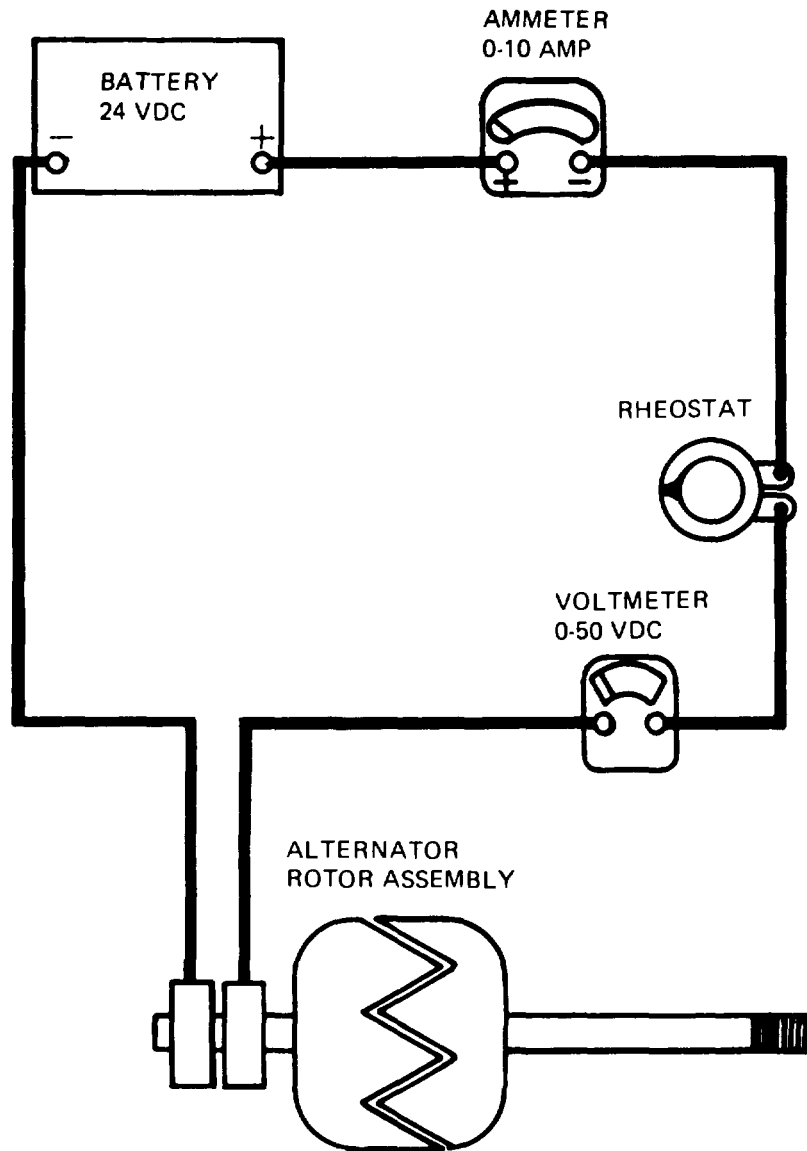

Figure 3-6. Rotor Assembly Current Draw Test Circuit
- (7) Using an ohmmeter, check continuity of each phase of stator assembly. Replace stator assembly if ohmmeter indicates open circuit of one or more phase.
- (8) Visually inspect rotor assembly for rub marks and burns or other evidence of shorting. Inspect shaft for worn key slot and bearing surfaces.
- (9) Test rotor assembly as follows:
- (a) Install rotor assembly in test setup shown in figure 3-6.
- (10) Replace rotor assembly if inspection and test requirements are not met.
- (11) Inspect voltage regulator connector, cover assembly, and voltage adjust for cracks, corrosion, and evidence of shorting or other damage.
- (12) Inspect fuse holder for cracks, corrosion, and other damage. Check fuse for burned out condition. Check fuse for continuity if in doubt.
- (13) Inspect brush assembly for corrosion and excessive wear.
- (3) Check alternator total circuit voltage as follows:
- (a) Install alternator in test circuit as shown in figure 3-6.